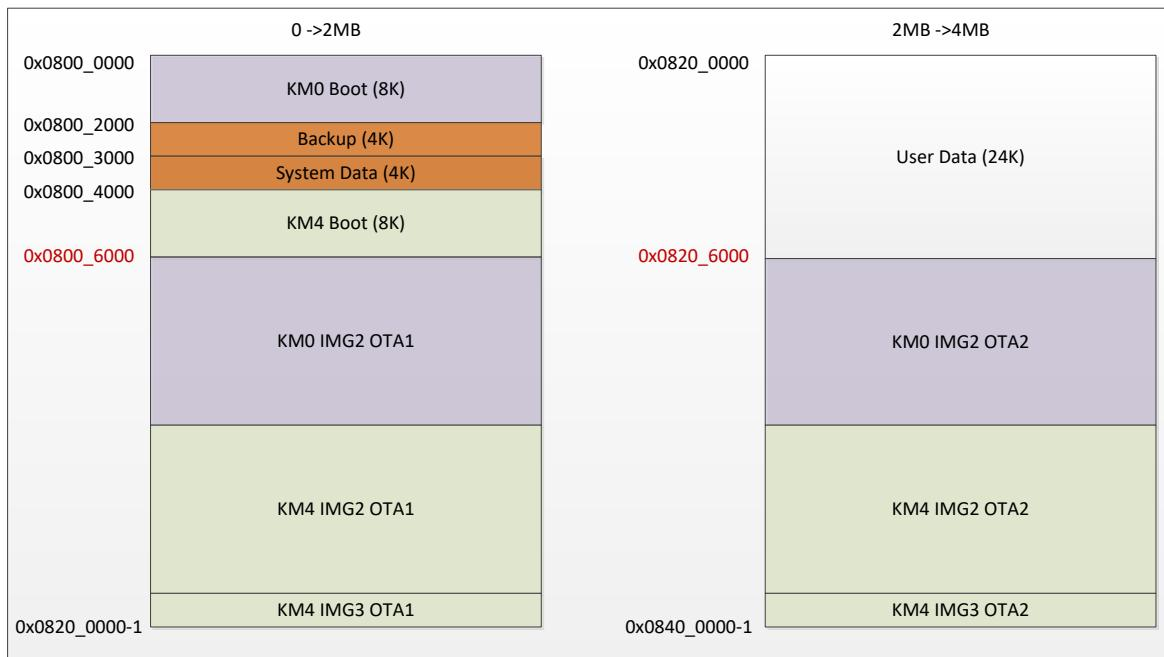

Fig 9-4 4M Flash program layout example
For 4M Flash, an example of Flash layout is illustrated in Fig 9-4. In this example, 2048K Flash size can be used for KM0 & KM2 image, and you can modify the layout according to your actual conditions. Because bootloader will be called by ROM code, the address of bootloader cannot be changed. Other addresses except bootloader can all be changed by user, but before you change these addresses, make sure that you are familiar with Ameba-D system and SDK.
- (1) Modify **OTA\_Region** in rtl8721d\_bootcfg.h, change OTA2 region start address according to your actual Flash layout. When using 4M Flash program layout example as shown in Fig 9-4, OTA region should be modified as below:
- (2) Modify OTA address definition in rtl8721d\_ota.h, redefine **LS\_IMG2\_OTA2\_ADDR** macro according to your actual Flash layout. When using 4M Flash program layout example as shown in Fig 9-4, OTA address should be modified as below:
- (1) For BT FTL start address, re-define **ftl\_phy\_page\_start\_addr** variable in rtl8721dhp\_intfcfg.c, note that SPI FLASH address base 0x0800\_0000 is subtracted when calculating **ftl\_phy\_page\_start\_addr** variable, and **ftl\_phy\_page** will consume 3\*4=12KB Flash starting from **ftl\_phy\_page\_start\_addr**. When using 4M Flash program layout example as shown in Fig 9-4, BT FTL start address should be modified as below:
- (2) For Wi-Fi fast connect profile address, redefine **FAST\_RECONNECT\_DATA** macro in platform\_opts.h, and SPI FLASH address base 0x0800\_0000 is subtracted when calculating **FAST\_RECONNECT\_DATA** macro. Note that Wi-Fi fast connect profile address should not recover the 12KB Flash starting from **ftl\_phy\_page\_start\_addr**, as this region is reserved for BT FTL. When using 4M Flash program layout example as shown in Fig 9-4, Wi-Fi fast connect profile address should be set to 0x202000+0x3000=0x205000.